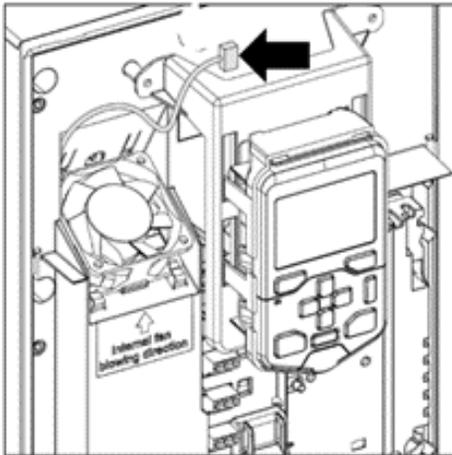

Fig. 43 — Auxiliary Fan — Remove Fan Power Supply Wires (Frame Sizes R6 up to R8)
3. Unplug fan power supply wires from the drive (see Fig. 43).